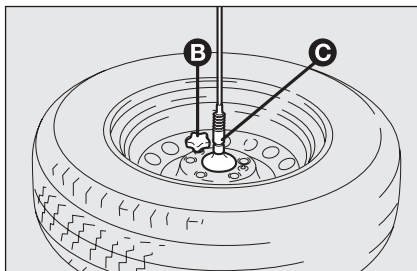

fig. 7
- ☐ Remove cap **B**-fig. 7 and release the retaining cable, then free the wheel from the toothed support **C** unscrewing the 2 screws.